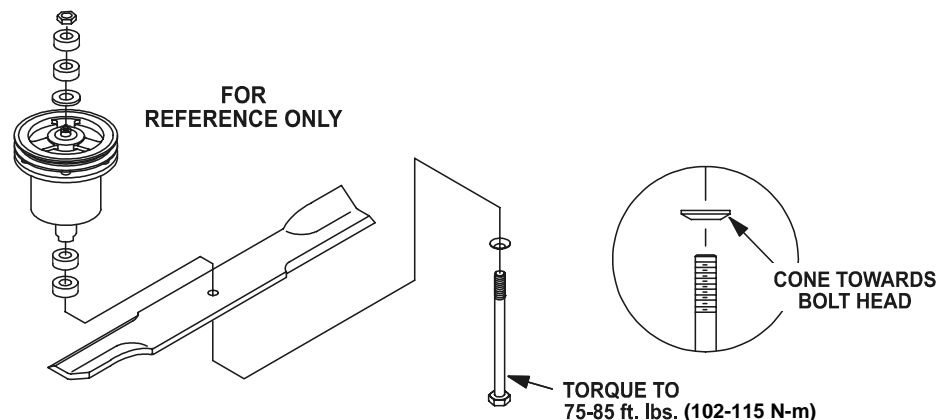

FIGURE 3
- g) Re-install the blades (if they were removed) and torque blade bolts to 75-85 ft. lbs. (102-115 N-m). Be sure the spring disk washer cone is installed toward the bolt head (See Figure 3).